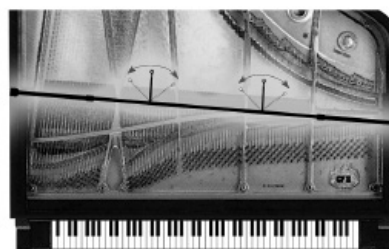

Figure 10. Adjustable flex arms for the Microphones
10. With the PianoMic™ in place, you can move the flex arms attached to the microphone heads several inches to the left or to the right to achieve your desired placement (See Figure 10).